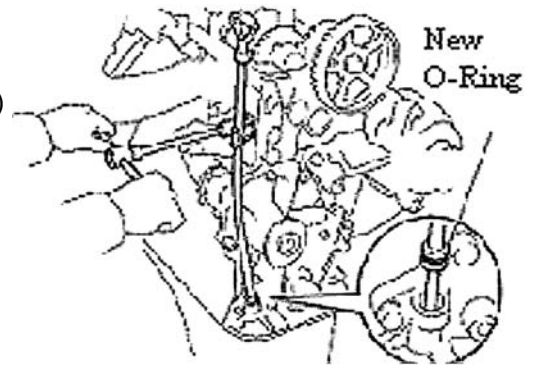

Figure 87
13. Install the dipstick guide. See (Figure 87)